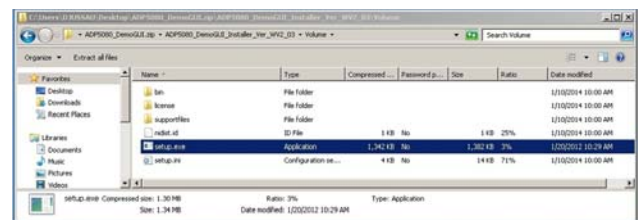

Figure 12. ADP5080_DemoGUI.zip Folder Window
5. Run the **setup.exe** executable (see Figure 12).